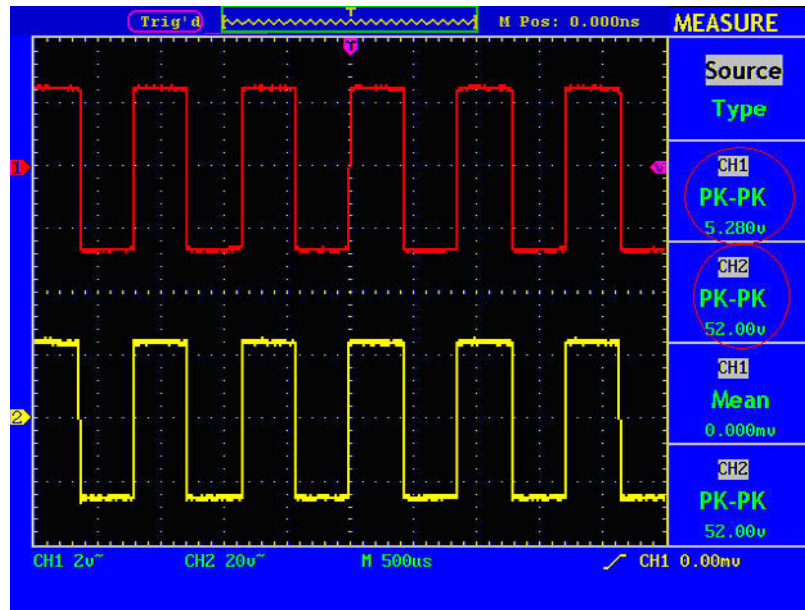

Figure 104. Wave Form of Gain Measurement.
- 8 Get **Pk-Pk** readings of Channel 1 and Channel 2. (see Fig. 104).